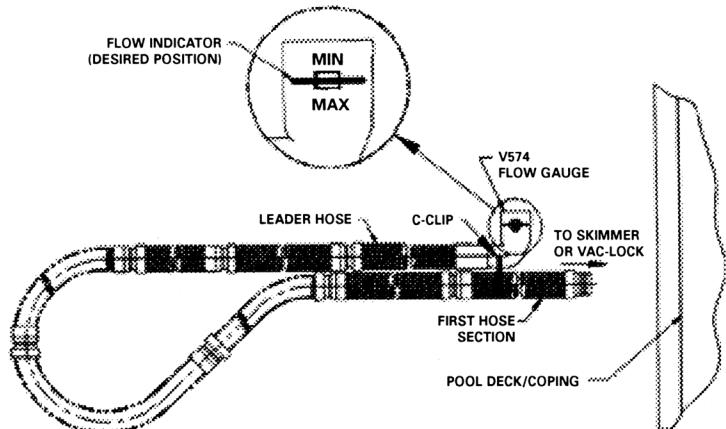
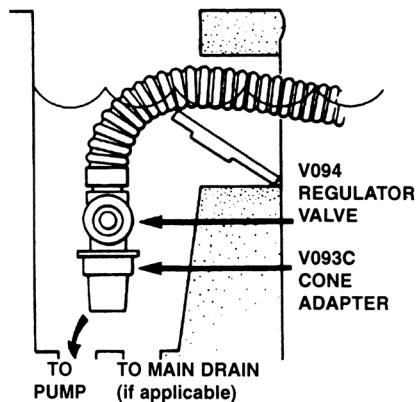

Figure 2
Figure 4
The hose should reach from the skimmer or Hayward Vac Lock® to the furthest point in the pool, **plus two (2) extra hose sections**. (The length of each hose section is four feet.) **This extra length is absolutely necessary for proper operation of your Hayward Cleaner.** If the hose is not long enough, it will be necessary to purchase additional hose sections from your Hayward dealer. The hose length supplied has been determined to be sufficient for the class and size of pools for which each type of cleaner is sold – 40 feet for PV XL & NAV Pro, 32 feet for PV Classic. If your hose requirement is more than this, you must obtain additional hose sections for your cleaner to work properly. After the correct hose length has been assembled, fill hose completely with water. Insert Flow Gauge into the leader hose, then attach the C-Clip of the gauge onto the first hose section. Make sure the Flow Gauge is under water. (see Figure 2)
Check the water flow reading on the Flow Gauge. (Refer to Step 4, Figure 2). The black disk should be in the box between the "MIN" and "MAX" markings. If the setting is higher than required with the black disk outside of the box on the "MAX" side and you have connected your hose to the skimmer, it will be necessary to reduce the vacuum/water flow by using a valve or valves in the filter system, or the Hayward V094 Regulator Valve or an optional Hayward Automatic Skimmer Vacuum Plate designed to adjust vacuum/water flow. To install the V094 Regulator Valve, turn the filter system off, remove the hose from the V093C Skimmer Cone, and after closing the Regulator Valve (Rotate the blue collar clockwise until tight), insert the Valve into the Skimmer Cone, and insert the hose end into the Valve (see Figure 4).
If you have connected your hose to the Hayward Vac Lock, it will be necessary to adjust the vacuum/water flow using the 3-way valve at the filter system. The handle on the valve should be turned so that the Flow Gauge which is installed in the Cleaner hose reads properly (*refer to Figure 2*). After the 3-way valve has been properly adjusted, **the 3-way valve should be marked so that the water flow can be adjusted by referring to the valve handle mark**, rather than reinstalling the Flow Gauge in the hose each time an adjustment is necessary.
Some skimmers have two (2) holes in the bottom. There might be a valve, float or cover over the holes. Remove everything in the skimmer, exposing the holes. The rear hole is usually the suction port. In some cases it will be necessary to use the V094 Regulator Valve to control water flow through the Cleaner (*see Figure 4*).